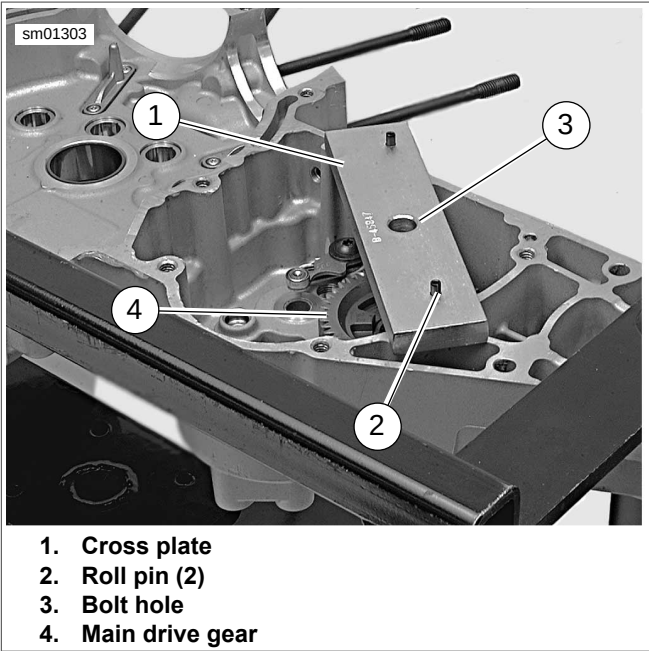

Figure 5-66. Positioning Cross Plate (typical)
3. Obtain MAIN DRIVE GEAR REMOVER AND INSTALLER SET (Part No. HD-35316-D). See Figure 5-66. Position CROSS PLATE (Part No. B-45847) (1) on right crankcase as shown. Position so roll pins (2) fit into crankcase mating screw holes and bolt hole (3) is centered over main drive gear (4).